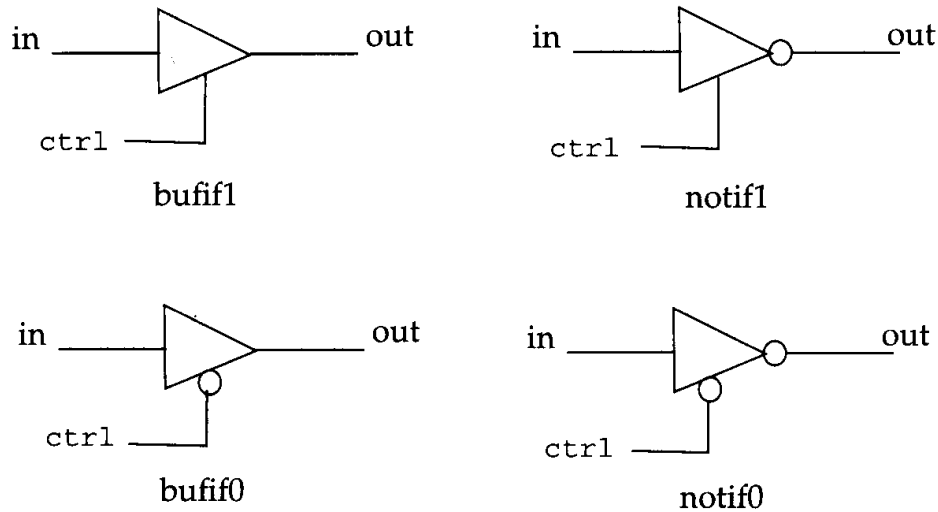

Fig.3.3: Gates Bufif and Notif
- The logic symbols for bufif/notif are shown in fig.3.3.
- Gate instantiation statement of Bufif/Notif gates shown in fig.3.3 can be written as